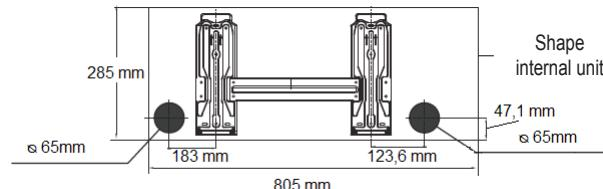

fig. 8 -
1. Remove the pre-cut plate (A—"fig. 8 -") near the desired direction.